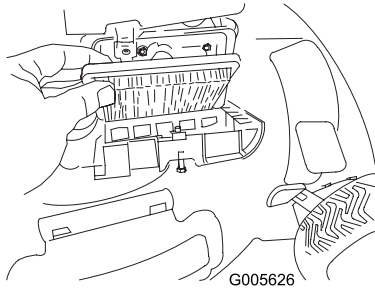

Figure 30
2. Replace the air filter (Figure 30).